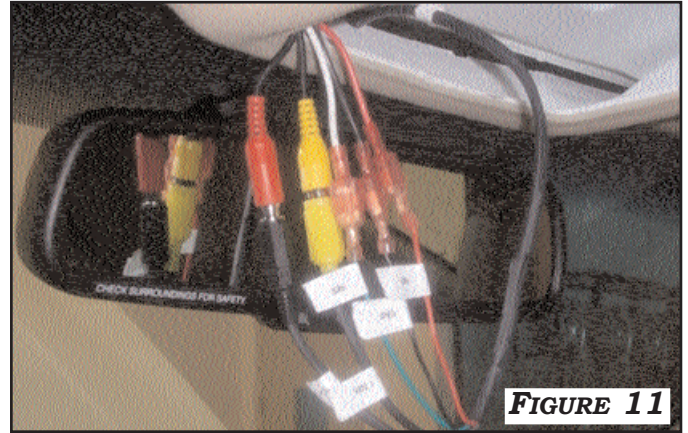
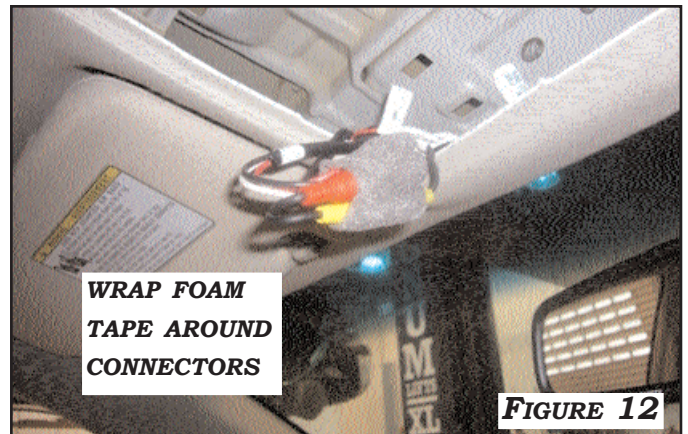

FIGURE 11
FIGURE 12
2. ROUTE MIRROR HARNESS UP WINDSHIELD AND BEHIND THE HEADLINER TO CONSOLE OPENING. ROUTE THE END OF THE CAMERA EXTENSION HARNESS MARKED "TO MIRROR" WITH THE MALE CONNECTORS UP THE CENTER OF THE WINDSHIELD AND BEHIND HEADLINER TO THE CONSOLE OPENING. **FIGURE 11**
3. CONNECT **MALE RCA** VIDEO CONNECTOR OF CAMERA EXTENSION HARNESS TO **VIDEO** INPUT (YELLOW CONNECTOR) OF MIRROR HARNESS. CONNECT **MALE DC** POWER CONNECTOR OF CAMERA EXTENSION HARNESS TO CAMERA **POWER** OUTPUT (BLACK CONNECTOR) OF REARSIGHT MIRROR HARNESS. CONNECT RED, WHITE, AND BLACK WIRES OF POWER EXTENSION HARNESS AS SHOWN IN **FIGURE 11**. WRAP ALL **RCA** AND **DC** CONNECTORS WITH THE FOAM TAPE PROVIDED. **FIGURE 12**